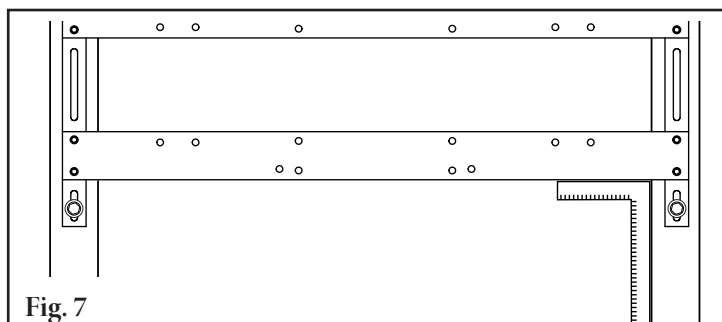

Fig. 7
7. **Square up main frame.** With a square, ensure the frame is perpendicular to the conveyor structure and belt, then tighten in place (Fig. 7). Each subsequent modular bed section will maintain square by butting up the mounting feet to the previous bed.